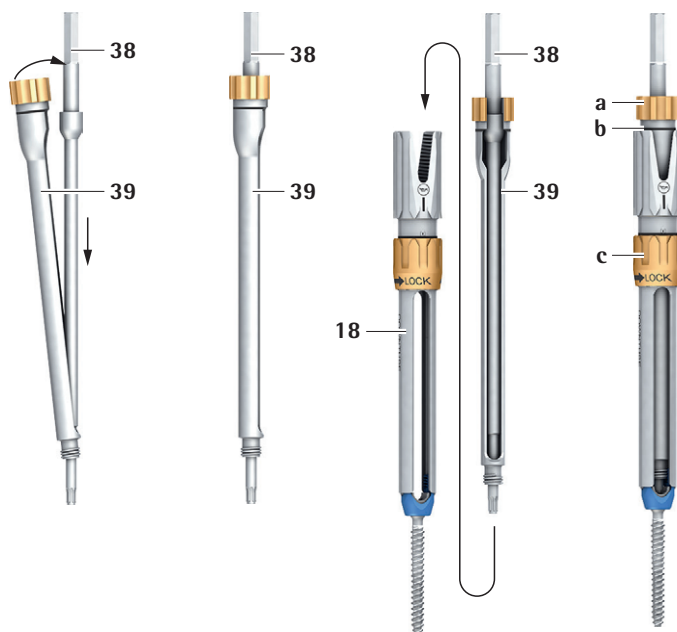

Fig. 12
- ▶ After the cement cures completely: remove injection cannula **38** and cannula sleeve **39** from the downtube **18**. To do so, release cannula sleeve **39** from the pedicle screw by turning the gold colored sleeve **a** counter-clockwise and remove from the downtube **18**, see Fig. 12.